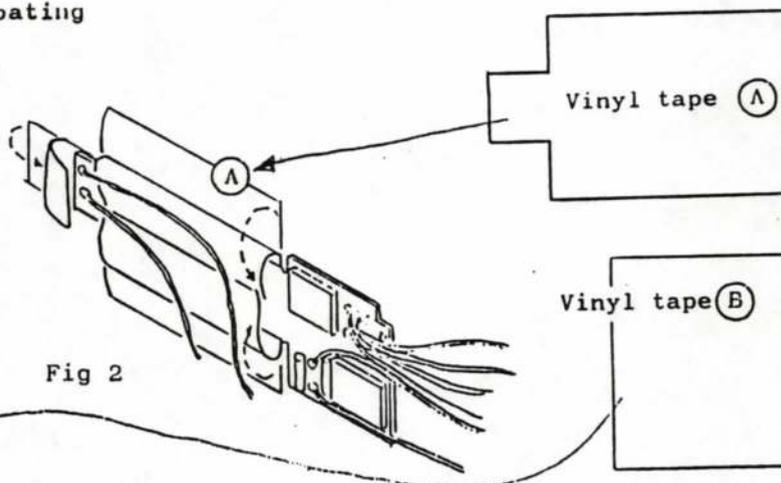

Fig 2
- 3) Put adequate length vinyl taPe on the shaded portions of sub-F.P.C.board to isolate the board from camera body. (Fig.2)